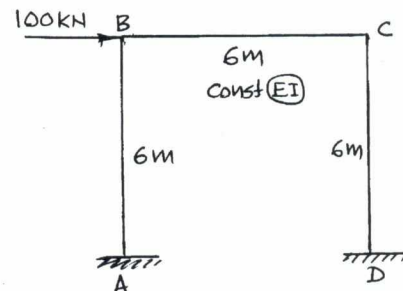

Fig. Q4
- 4 Analyse the frame shown in Fig. Q4 by using moment distribution method. Draw BMD, SFD and also sketch the elastic curve. (20 Marks)